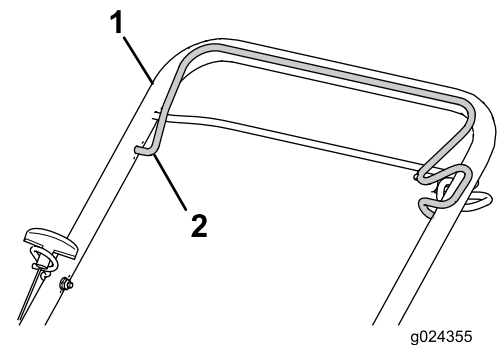

Figure 15
3. Pull the blade-control bar to the upper handle and hold it (Figure 15).